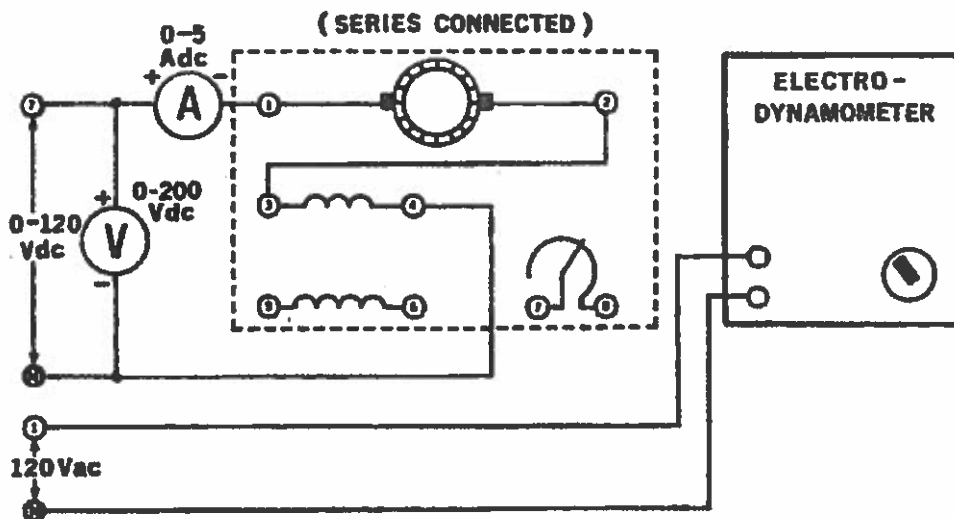

Figure 25-1.
1. Using your Power Supply, DC Motor/Generator, DC Voltmeter/Ammeter and Electrodynamicometer, connect the circuit shown in Figure 25-1.